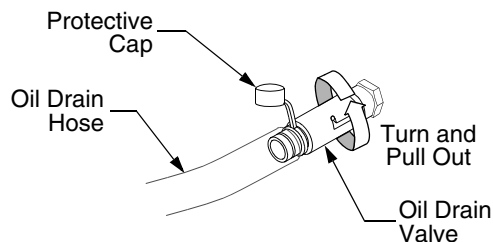

Figure 20
- Pop open the protective cap on the end of the oil drain valve to expose the oil drain port. See Figure 20.
- Push the oil drain valve in slightly, then rotate counterclockwise and pull outward to begin draining oil. See Figure 20.